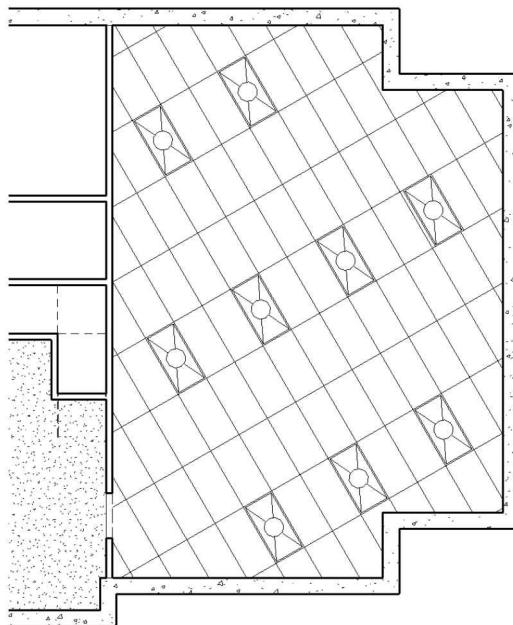

FIGURE 9-3.6 Basement Ceiling Plan; light fixture copied
- Once you have one fixture rotated, it is easier to use the *Copy* tool and the *Snaps* to add rotated light fixtures. **Copy** the light fixture to match the layout in **Figure 9-3.6**.